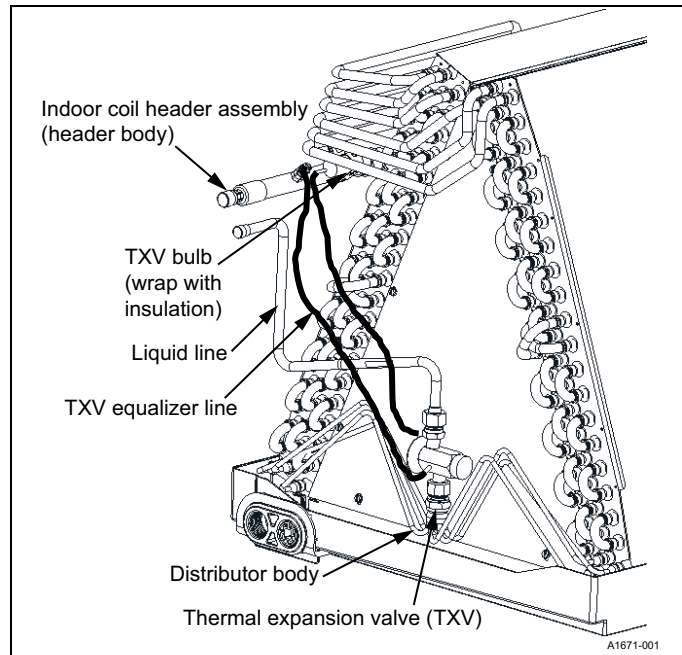
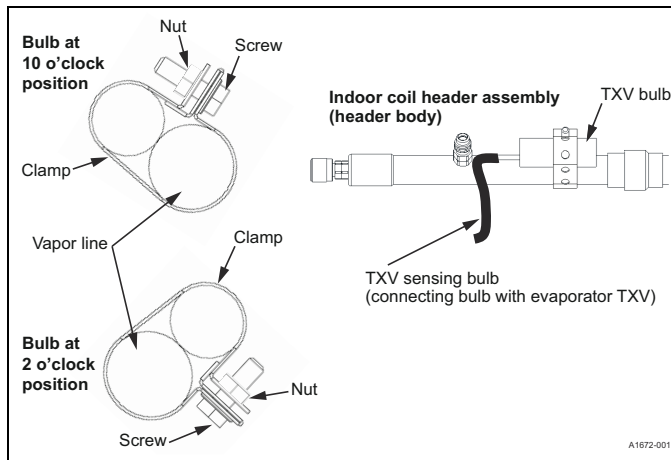

Figure 12: TXV bulb and equalizer line installations
Figure 13: Correct bulb location
- Slide the nut removed in Step 3 over the supplied liquid line. Place the supplied PTFE washer from the TXV kit in place on the TXV and install the liquid line into the top of the thermal expansion valve. Adjust the assembly so the liquid line aligns with the hole in the access panel. See **Figure 12**. Hand tighten the liquid line and apply an additional 1/4 turn to seal.
- Install the TXV equalizer line onto the vapor line by hand tightening the 1/4 in. SAE coupling nut to the equalizer fitting and apply an additional 1/3 turn to seal. See **Figure 12**.
- Install the TXV bulb to the vapor line near the TXV equalizer tube connection port, using the bulb clamps supplied with the TXV assembly. Ensure the bulb makes maximum contact. See **Figure 12** and **Figure 13**, and complete the following steps: